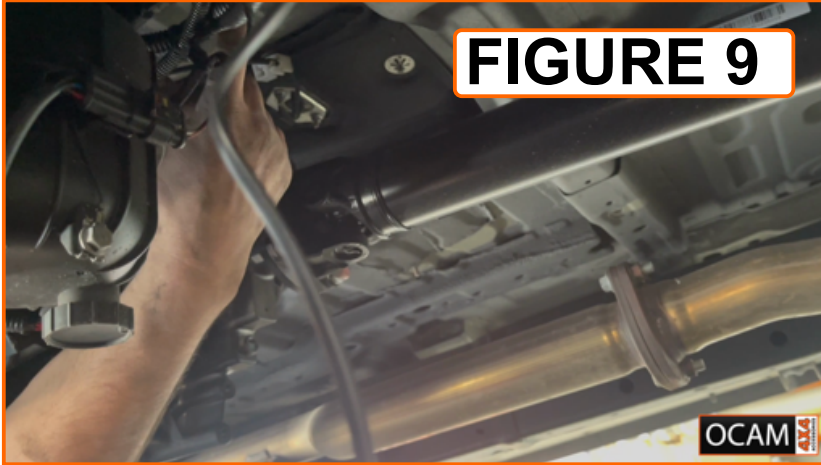
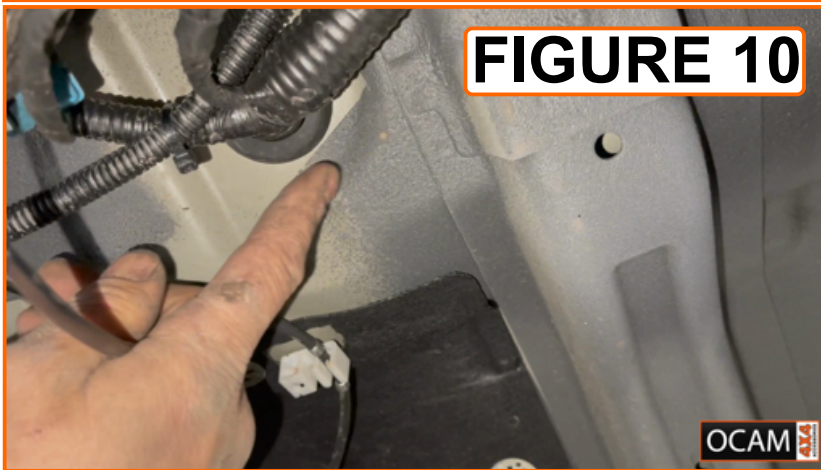

FIGURE 9
FIGURE 10
Step 8. The wiring harness should now be passed through the body. Now is the time to fit the optional split wall tubing. Direct the harness to the inside wall of the left hand chassis making sure that the harness is fixed securely and cannot be snagged by any road debris. Zip tie the harness to the existing vehicle wiring harness and fix the harness to a point roughly adjacent to the fuel filter **figure 9**. Remove the existing vehicle harness grommet from the floor pan. This grommet is located underneath the front passenger seat **figure 10**. If using the optional split wall tubing terminate it at this point. using the previous procedure pass the wiring harness through the grommet and access the wiring via the precut hole in the carpet under the passenger seat. Pull all the harness cable through the grommet and replace it back into the floor. **NB. Alternatively make a small hole and pass the harness through the grommet. Make sure the original wiring harness is not damaged while doing this.**